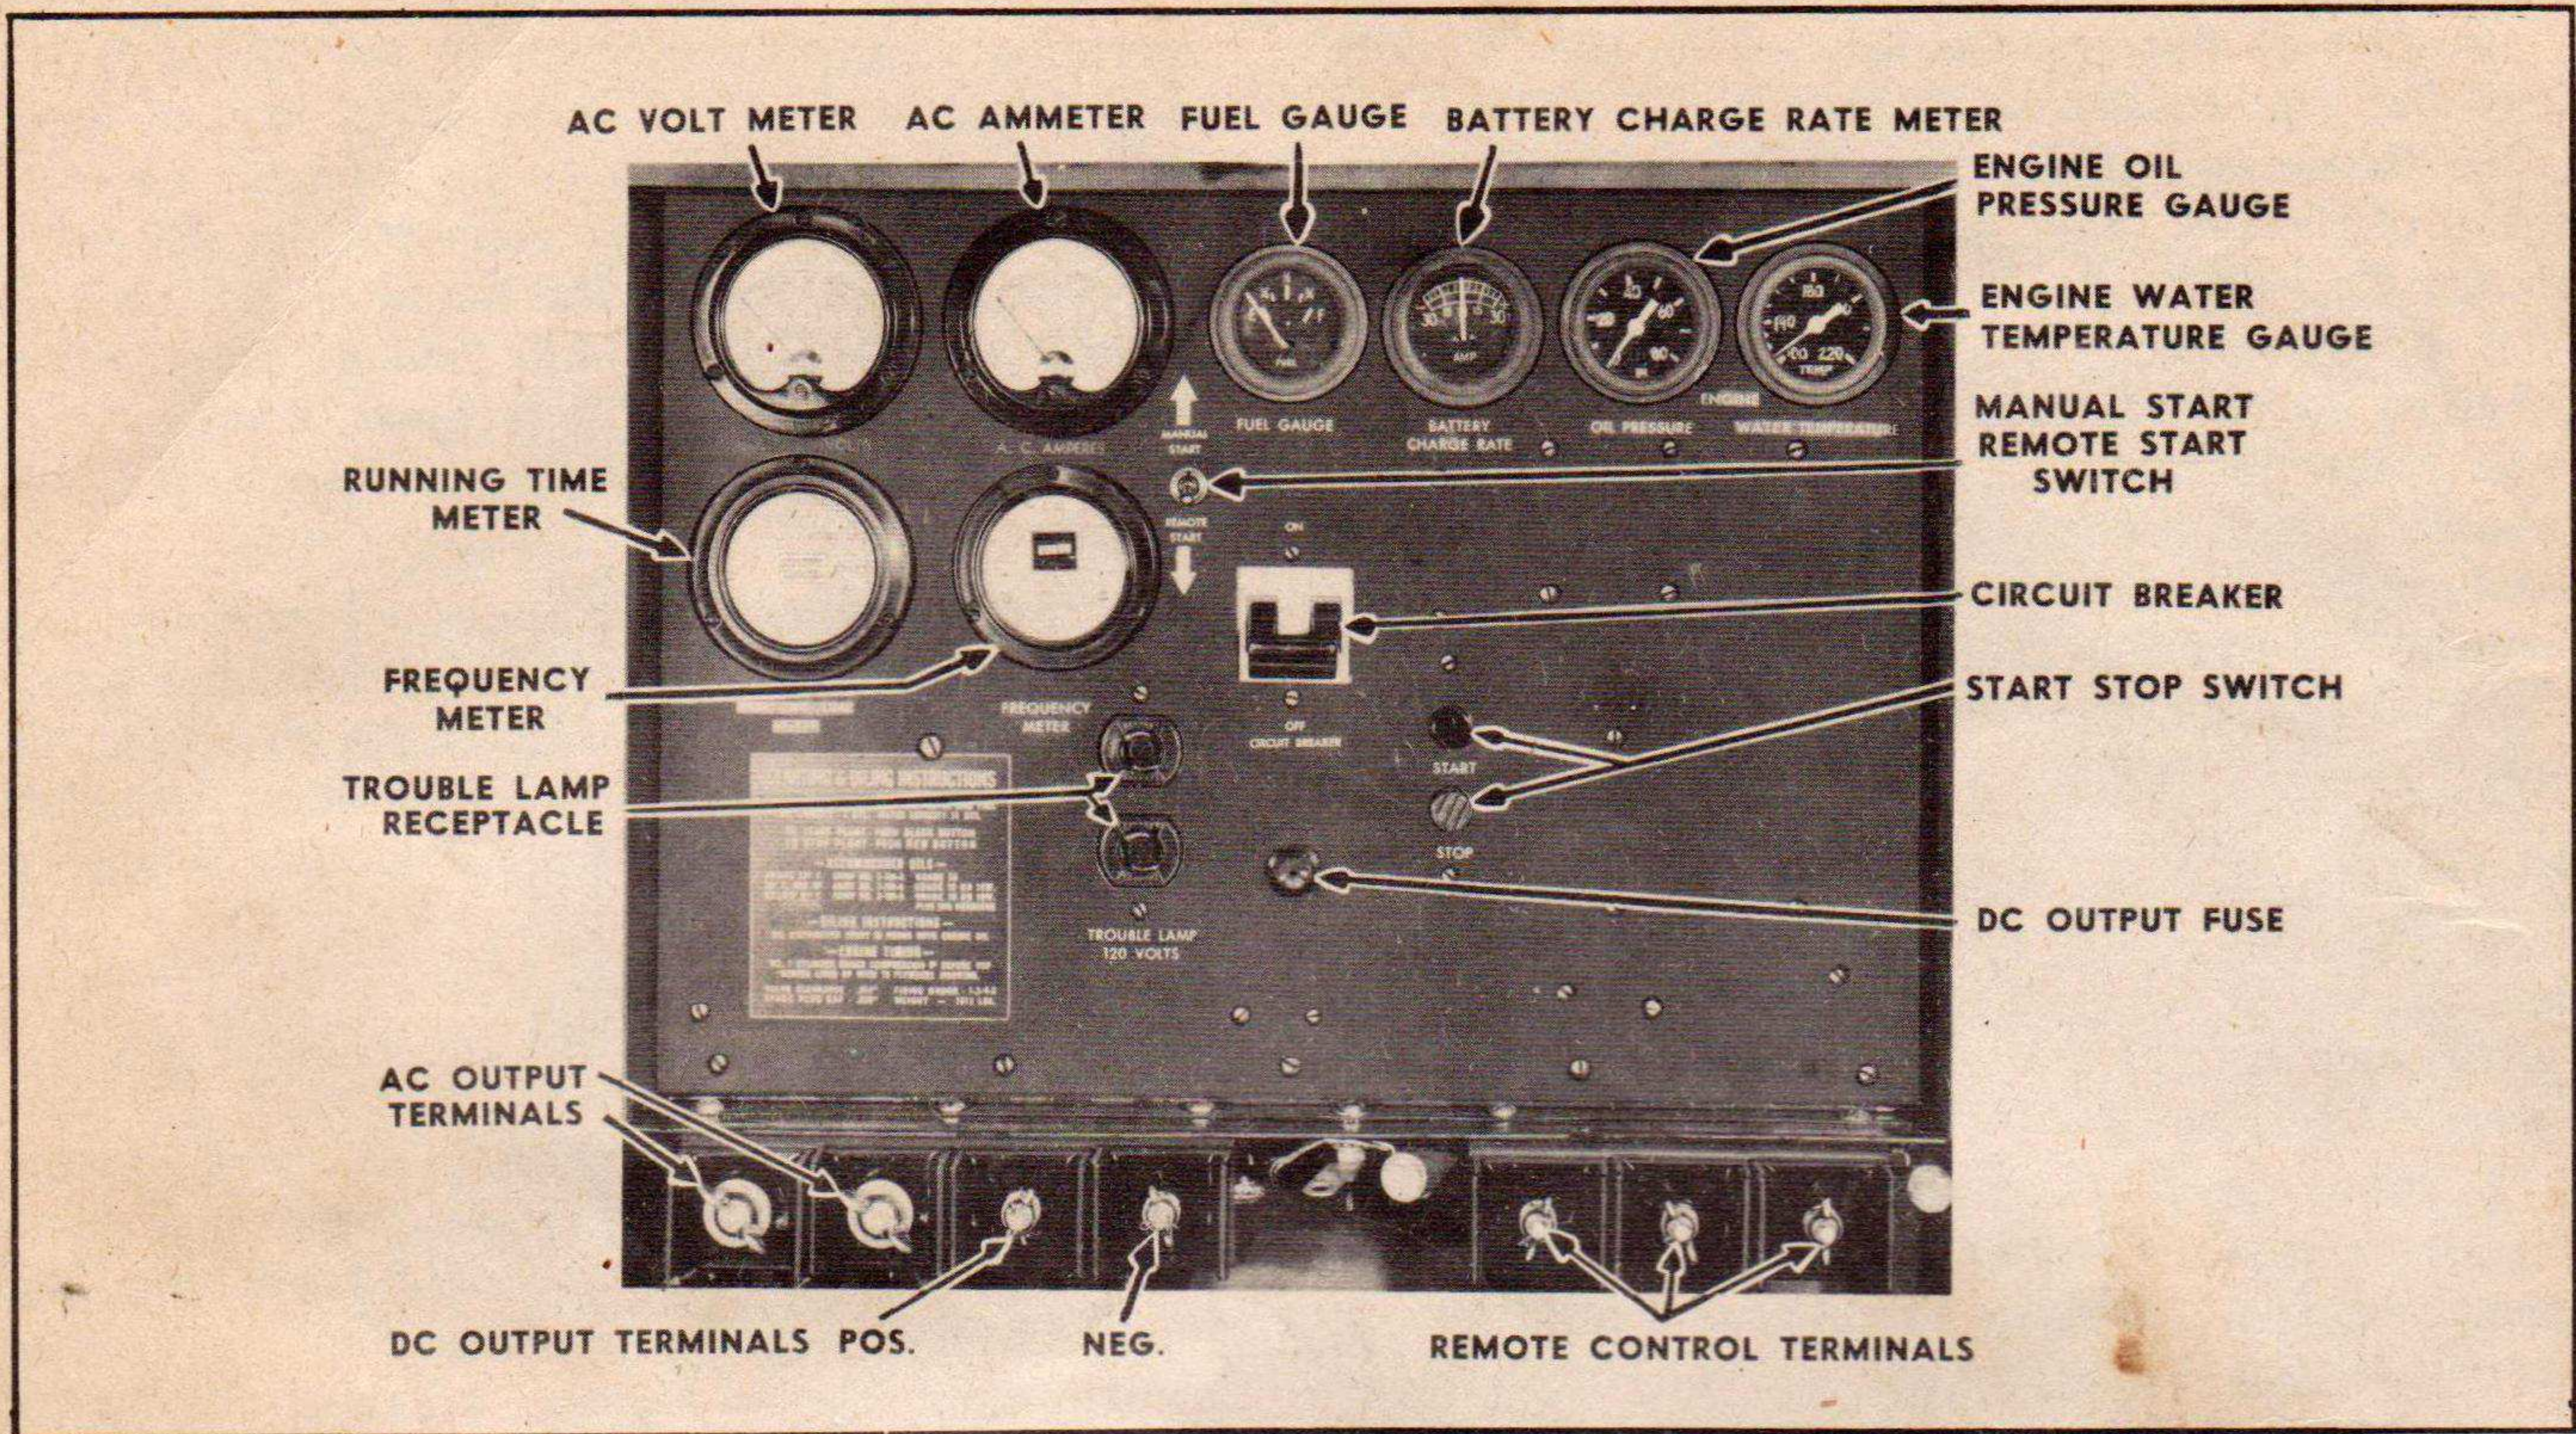

FIG. 3 CONTROL PANEL
b. Control Panel Equipment.—The following pieces of equipment are mounted on the control panel. (See Figs. 3 and 4).
(5) *Electrical Connections.*—Make sure that all electric wires entering the room and within the room are properly supported and insulated. Connect the load wires to the two A.C. OUTPUT terminals, (Fig. 3), beneath the control panel, one to each terminal. The size of insulated wire to use within the room for connecting the load to the power unit depends on the load amperes and the type of insulation on the wire. The following sizes are recommended as the smallest safe sizes for use within the room to carry the full load of the power unit; use No. 0 for 120-volt service, if the insulation contains rubber, or No. 2 if the insulation does not contain rubber; use No. 6 for 240-volt service if the insulation contains rubber, or No. 8 if the insulation does not contain rubber. Make sure that all connections are mechanically and electrically secure.
(6) *Remote Control.*—If it is desired to start and stop the power unit from one or more remote points, it will be necessary to install remote start and stop switches at each of the remote points and to connect them with the REMOTE CONTROL terminals, (Fig. 3), below the control panel of the power unit. Use 2-pole push button type switches, one for starting and one for stopping. Connect the insulated terminal of the starting switch to the REMOTE CONTROL terminal "Start". Connect the insulated terminal of the stopping switch to the REMOTE CONTROL terminal "Stop". Connect the REMOTE CONTROL terminal "Ground Return" through one wire to both remaining ter-
(1) *Circuit-Breaker.*—Make sure that the CIRCUIT BREAKER (Fig. 3) is in the OFF position.